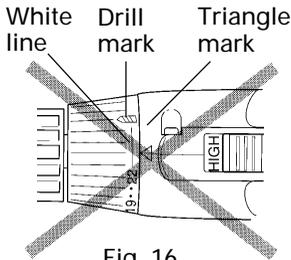

Fig. 16
- Do not use with the cap numeral at "22" and the white line at the middle of the drill mark. Doing so may cause damage. (See Fig. 16)